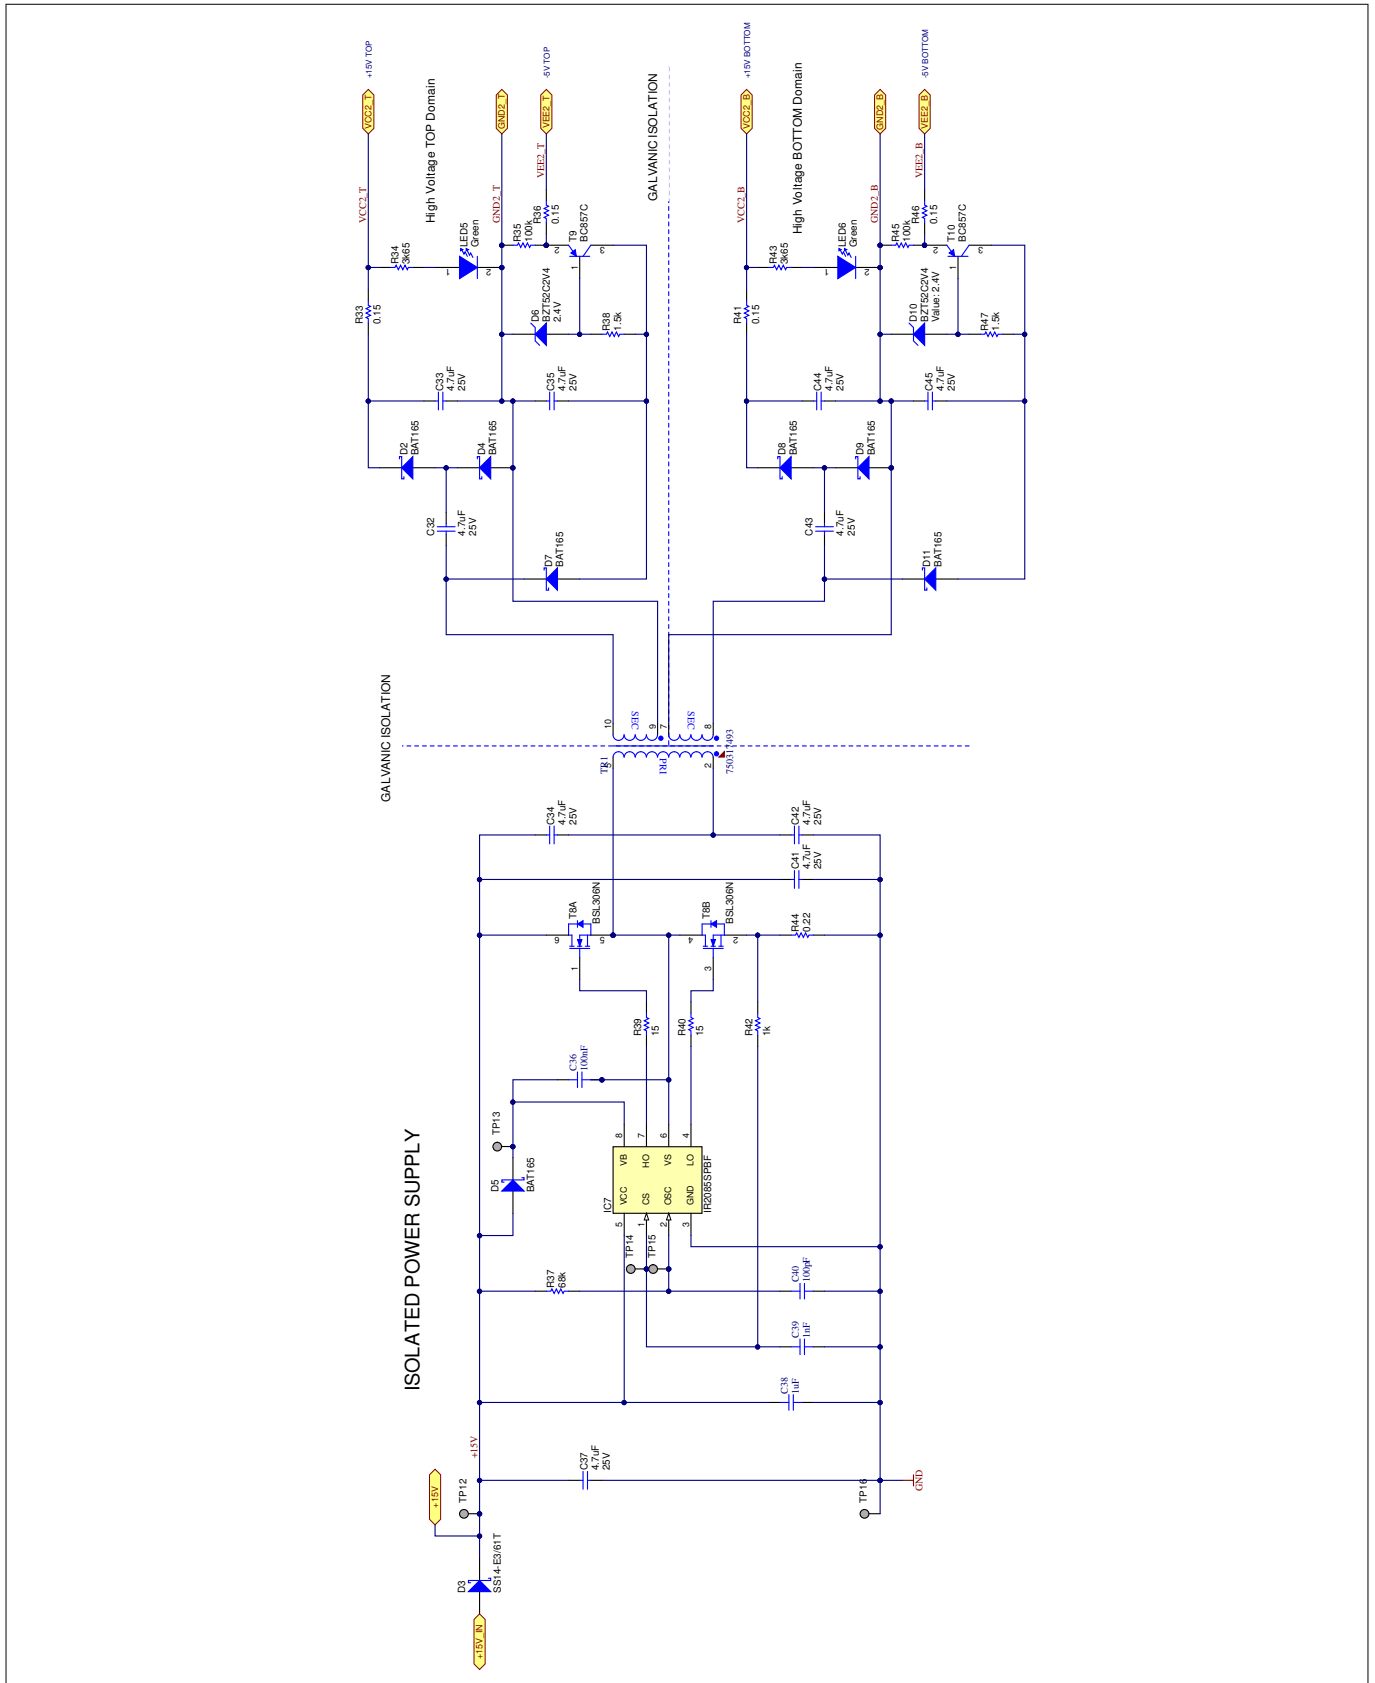

Figure 5 Power supply schematic
- Power supply schematic, see Figure 5, DC-DC converter to generate the isolated power supply for the high-side and the low-side gate driver out of the +15V supply voltage.
The power-supply schematic in Figure 5 shows the galvanically isolated DC-DC converter to generate the isolated supply $VCC2_T$ and $VEE2_T$ to supply the high side driver and $VCC2_B$ and $VEE2_B$ to supply the low side driver.